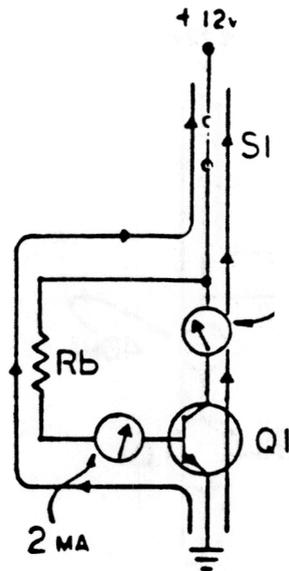

Fig. 21
- d. Causes an increase in collector current. See figure 21.